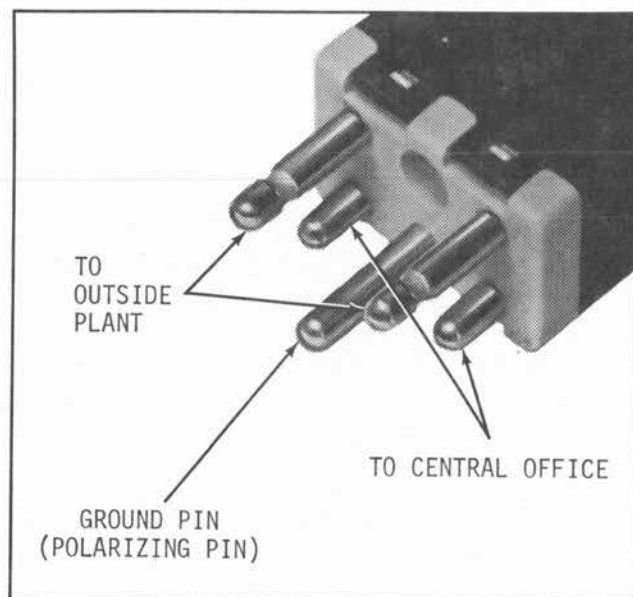

Figure 2
3.00 CONNECTOR MODULE DESCRIPTION (See Figures 2 through 7)
3.02 All connector modules except Type 5A are furnished with five contact pins and in a plastic housing (see figure 2). The plastic housing for the module is made from a self-extinguishing plastic insulating material. When inserted into the connector base, the contact pins provide the following contact for one cable pair: